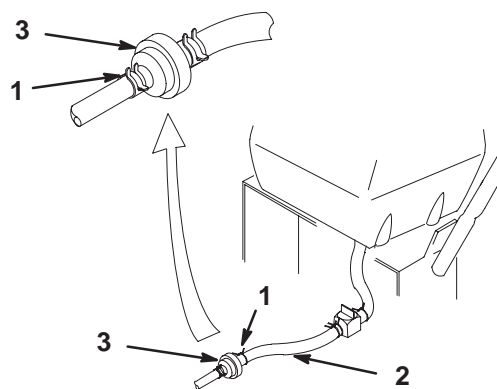

Figure 38
3. Squeeze the ends of the hose clamps together and slide them away from the filter (Fig. 38).